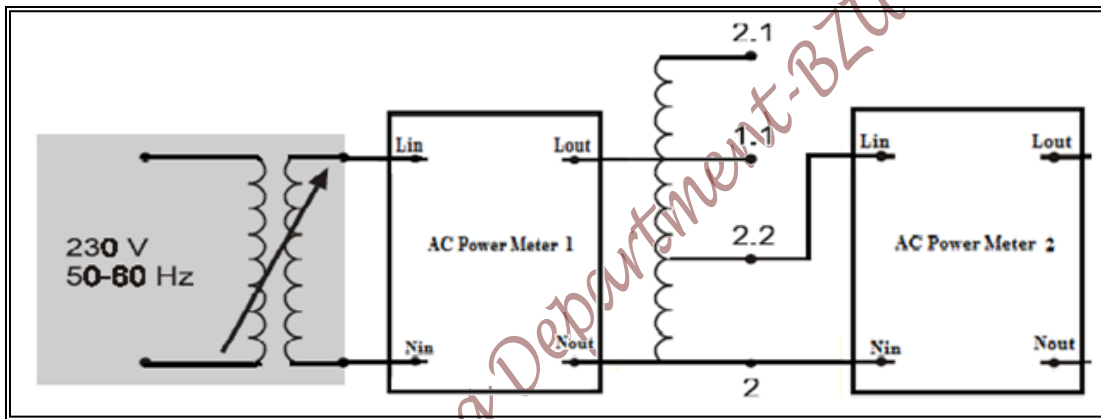

Figure 2.7: Circuit for Measuring Voltage Transformation in a Single-phase Autotransformer
1. Set up the circuit as shown in Figure 2.7
5. Measure the no load primary current  $I_0$  of the autotransformer and the voltage across each of the secondary windings  $V_{2.1}$  and  $V_{2.2}$  with respect to the reference point (2)